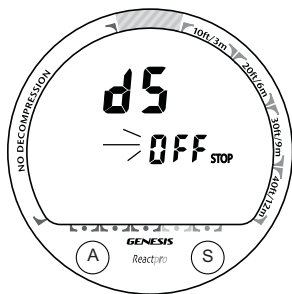

Fig. 29 - Set Deep Stop
- While viewing the Set 2 screen, press/release the A (left) button 11 times (< 2 sec each time), the Set DS screen appears with the Set Point flashing (Fig. 29).